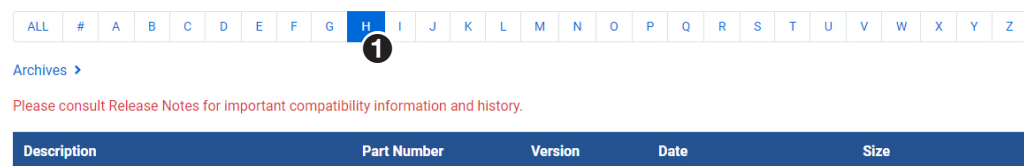

Figure 9. Firmware Download Center
1. On the Extron website, www.extron.com, go to the **Download** tab and click **Firmware** (see figure 9, **1**).
2. In the Download Center screen, navigate to the HAE 100 4K Plus (see figure 9, **1**).